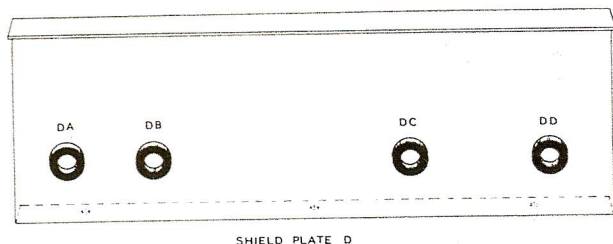

Figure 12
- ( ) Refer to Figure 12 and install rubber grommets in shield plate D at locations DA, DB, DC and DD. Note that DA and DB are the two holes closest together.
- ( ) Connect the center conductor of the shielded wire appearing through grommet DA to switch V2 (S) and the adjacent braid end to V1 (S).